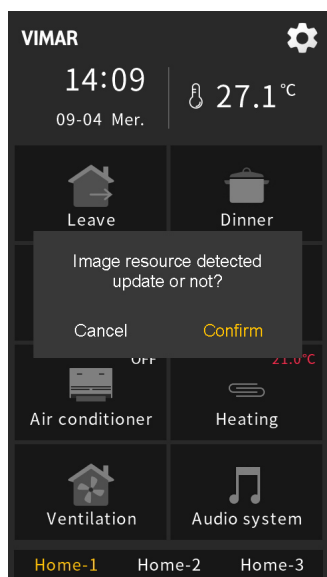

Fig. 4.1
2. Insert Micro SD card into the device, if Micro SD card meet the above settings, and there are valid pictures, then pop up a window to request update, as shown in Fig. 4.1;